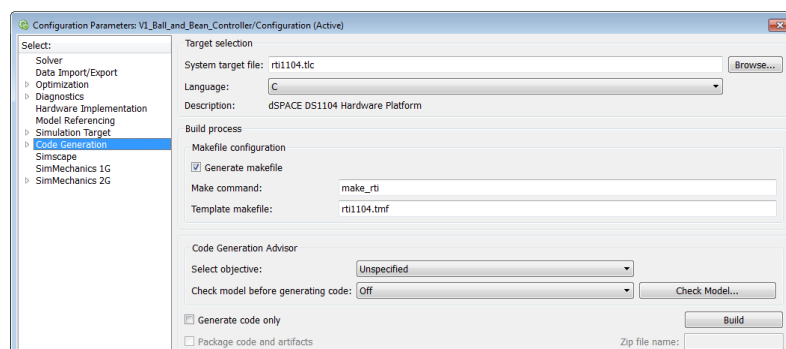
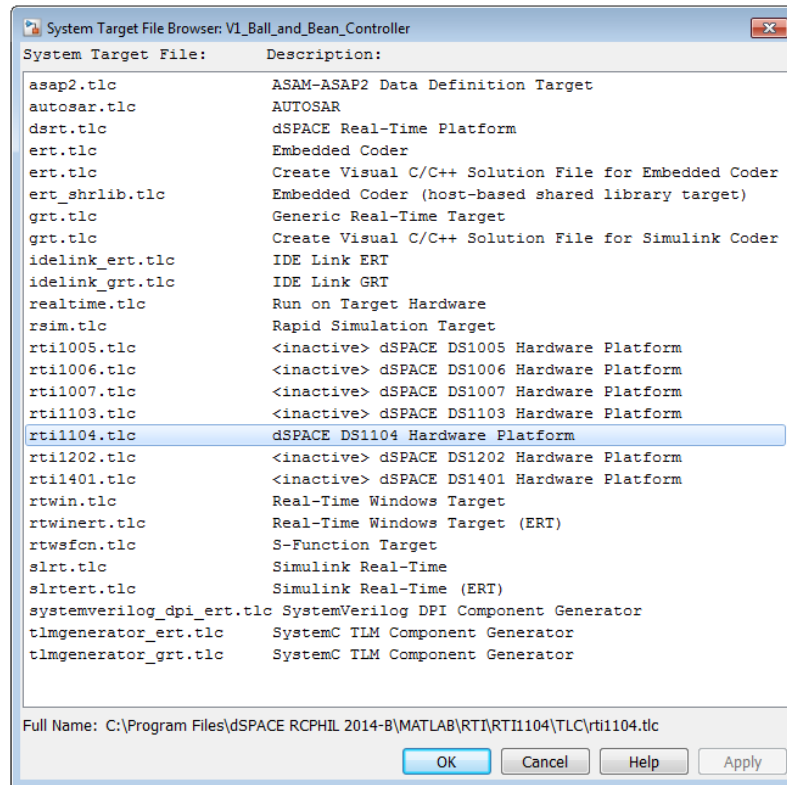

Figure 23: Selection of the board for compilation
Figure 24: Selection of the .tlc file related to the board
5. Finally, the model must be compiled in the dSPACE board. The DS1104 board must be selected in the 'Model Configuration Parameters' window, selecting the 'Code Generation' option, as seen in the figure 23. Press the button 'Browse. . .' at the right of 'System target file' to open a window that will show a list of .tlc files, and select the one associated with the DS1104 board, as shown in figure 24.